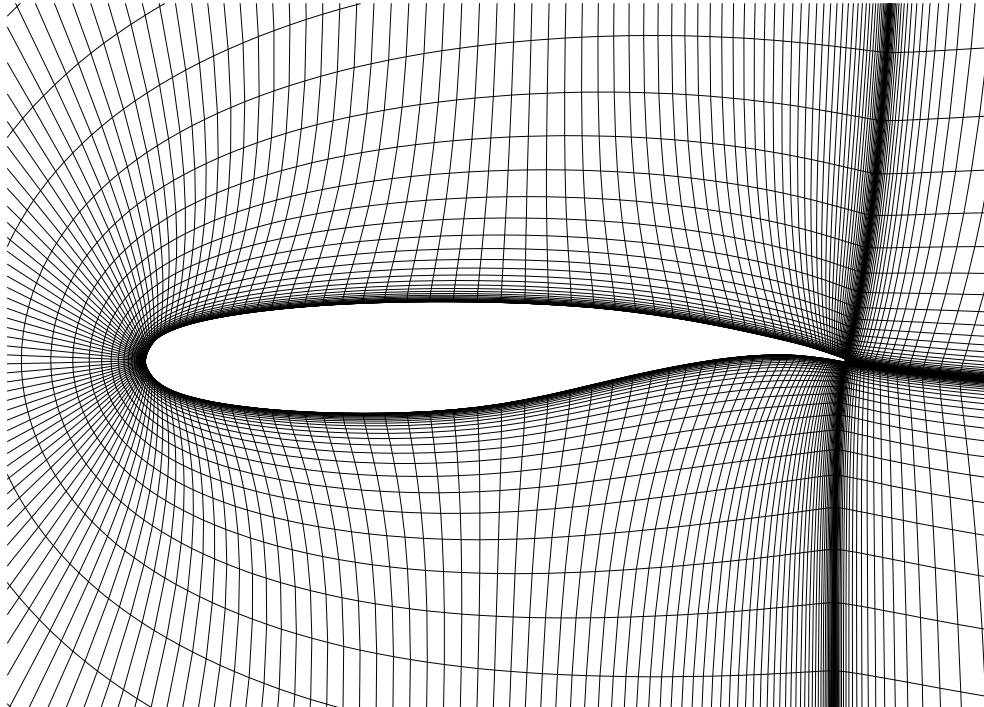

Figure 6.9: Smoothed grid for Test Case 3
6. Elliptically smoothed H-grid plot (figure 6.9)